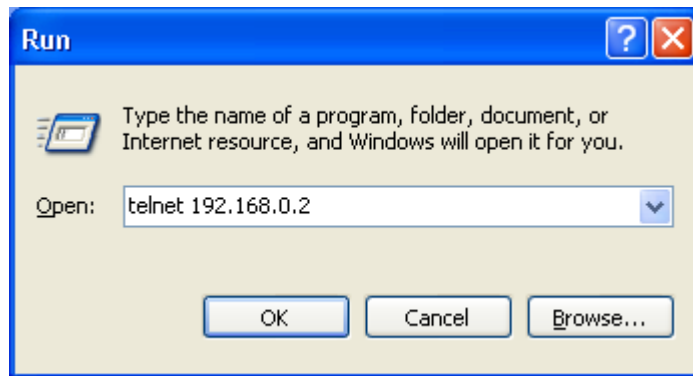

Figure 27 Access Through Telnet
Step 1: Connect the network port of a PC to the 10/100Base-T(X) port or debug port of the switch with an RJ45-RJ45 network cable.
Step 2: Enter "telnet *IP-address*" in the Run dialog box, as shown in Figure 27. The default IP address of a Kyland switch is 192.168.0.2.